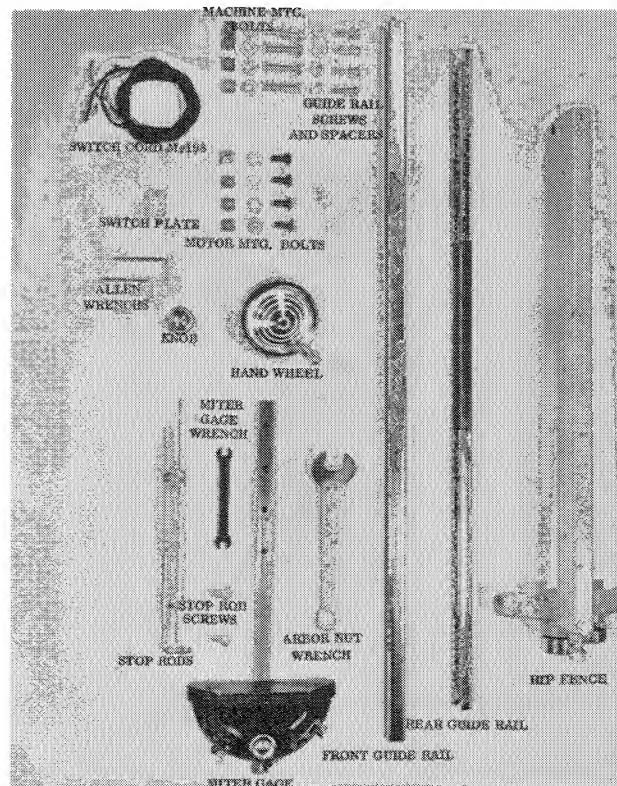

FIG. 3
3. Fasten the saw to the stand with the Hex Hd Cap Screws, washers and nuts furnished in package SP-34-600-E. See Fig. 3.
4. Attach front and rear guide rails using screws and spacers furnished in package SP-34-600-C. See Fig. 3.